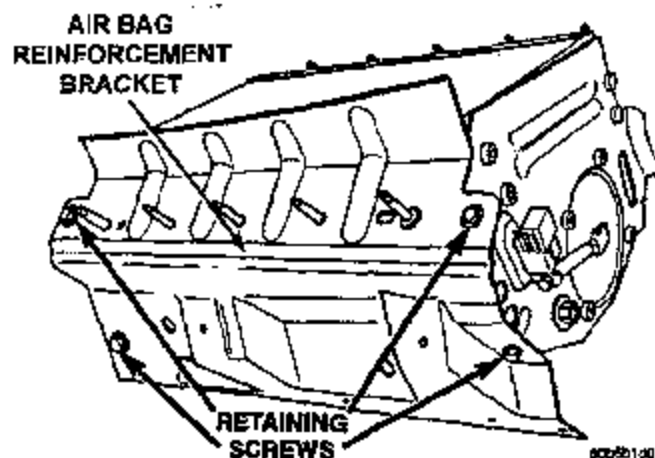

Figure 3
39. Remove the four (4) air bag reinforcement bracket screws and remove the reinforcement bracket (Figure 3).
40. Install the reinforcement bracket on to the new air bag module (Figure 3). Tighten the screws to 20 in-lbs (2.3 N•m).